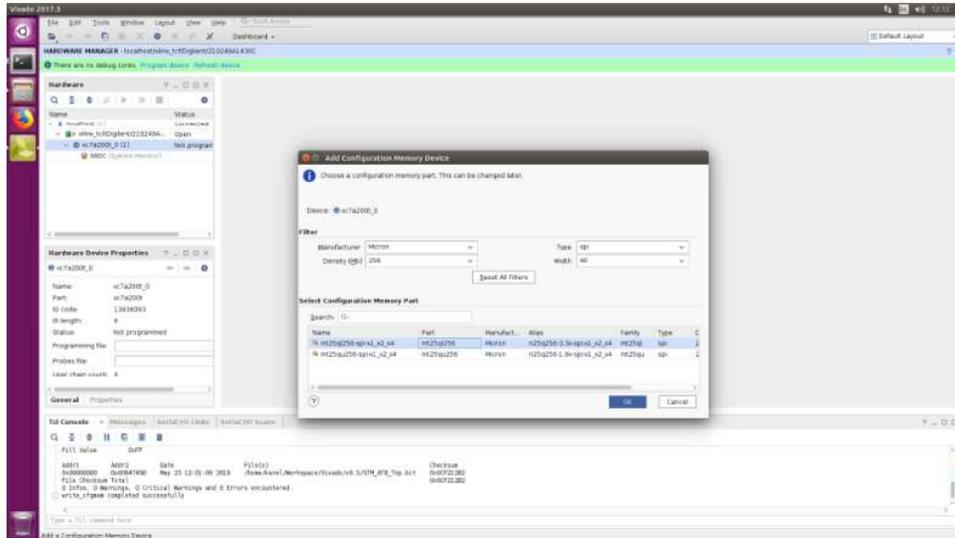

Figure 52: Add configuration memory device 2 [sc17]
8. The Explorer window “Add Configuration Memory Device” appears. Select “Manufacturer” “Micron”, then “Density (Mb)” “256”, “Type” “spi”. and “mt25ql-256-spi-x1\_x2\_x4” Alias “n25q256-3.3v- spi-x1\_x2\_x4”. Then click “OK” (Figure 52,  STMA-69247);